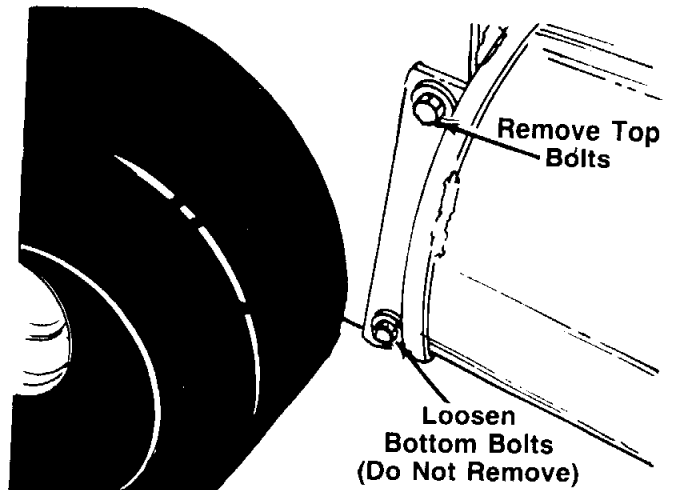

FIGURE 30
4. Remove the top bolts which attach the auger housing to the frame assembly. A 9/16" wrench is required. See figure 30.
5. Loosen (do not remove) the bottom bolts which attach auger housing to the frame assembly. See figure 30.